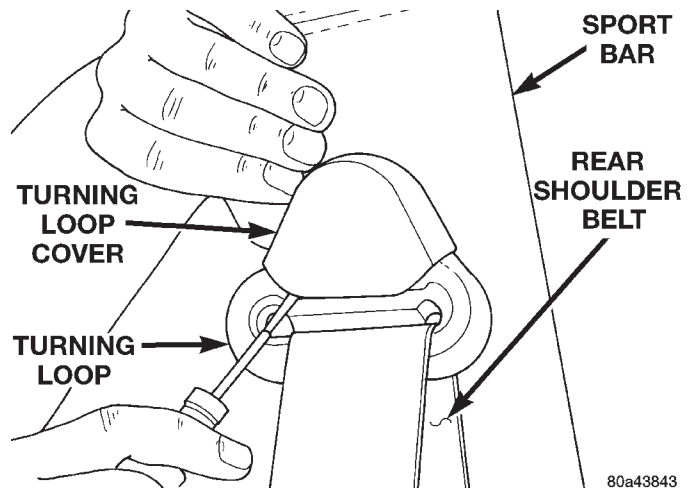

Fig. 55 Turning Loop Cover
- (3) Using a flat blade, pry the cover off the turning loop (Fig. 55).